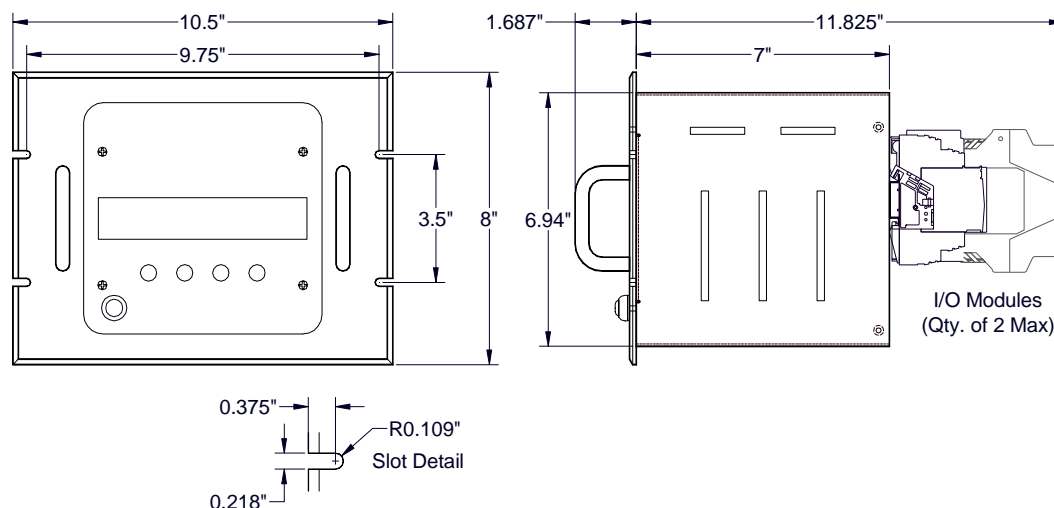
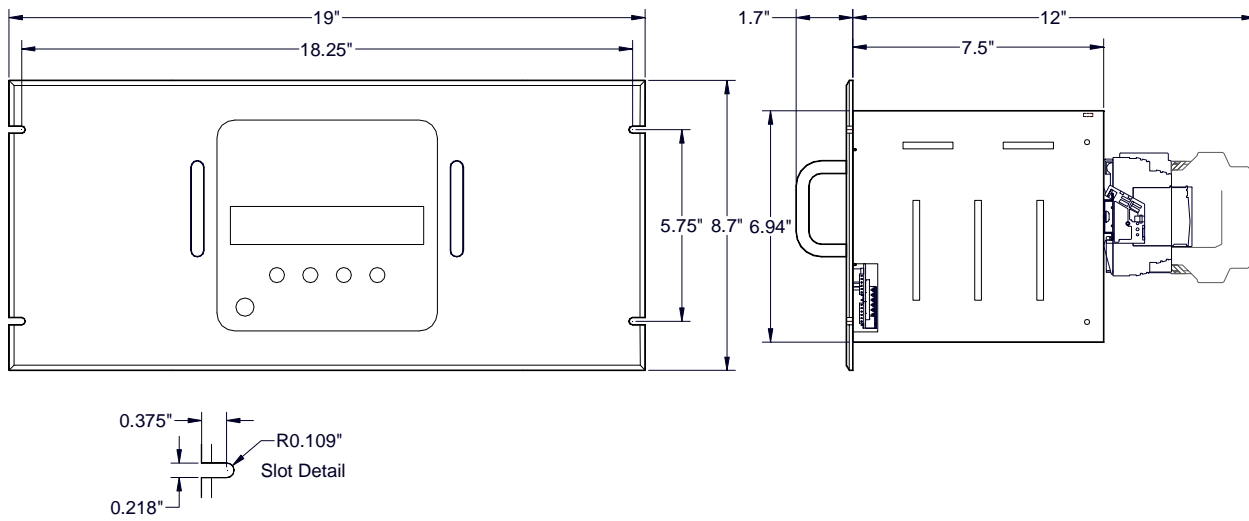

Figure 6 N1P Controller Mounting and Dimensional View
Figure 7 N1R Controller Mounting and Dimensional View
2. Securely mount the X40-32-N1P or X40-32-N1R controller at an indoor location using the mounting dimensions provided in Figure 6 and Figure 7. The N1R is made to fit a 19" Rack.